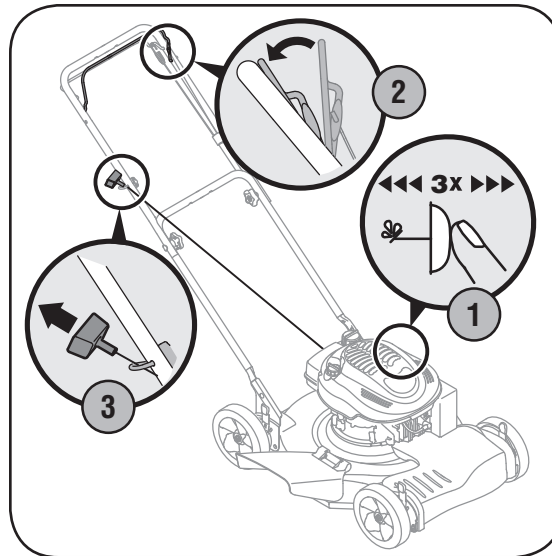

Figure 4-2: The steps involved in starting the engine.
1. Push primer three times. Wait about two seconds between each push, Figure 4-2. In temperature around 55°F or below, prime five times. Do not prime to restart a warm engine.
2. Standing behind the mower, squeeze the blade control against upper handle, Figure 4-2.
3. Holding these two handles together firmly, grasp recoil starter handle and pull rope out with a rapid, continuous, full arm stroke, Figure 4-2. Keeping a firm grip on the starter handle, let the rope rewind slowly. Repeat until engine cranks. Let the rope rewind each time slowly.